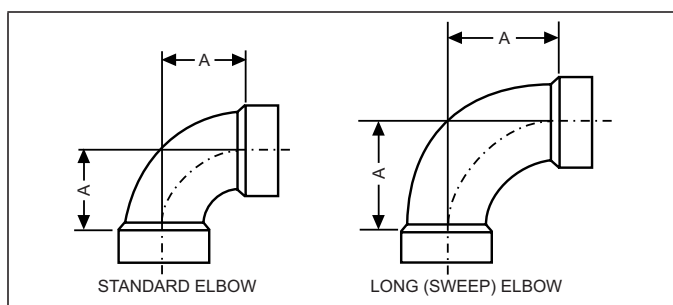

FIGURE 22: Elbow Dimensions
1. Drain, waste, and vent (DWV) elbows with a long radius (sweep) are recommended. Standard DWV elbows may be used, but since they have a longer equivalent length, they will reduce the total length of pipe that will be allowed. Short radius (plumbing or pressure) elbows are not allowed for venting. The standard dimensions of the acceptable elbows are shown in Figure 22.
Elbow	"A" Dimension (Illustrated in Figure 22)